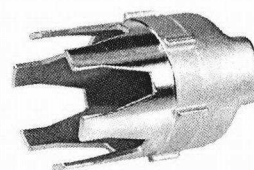

Figure 5-1: Sprinkler wrench types
3. Using the appropriate sprinkler wrench (see **Figure 5-1**) and following the sprinkler installation instructions, carefully tighten the sprinkler into the sprinkler adapter. You should obtain a leak-tight connection with a torque of 7 ft.-lbs. to 21 ft.-lbs. (approximately two turns past hand tight). Do not over-tighten. Always refer to the sprinkler manufacturer's data sheet for specific installation guidelines.